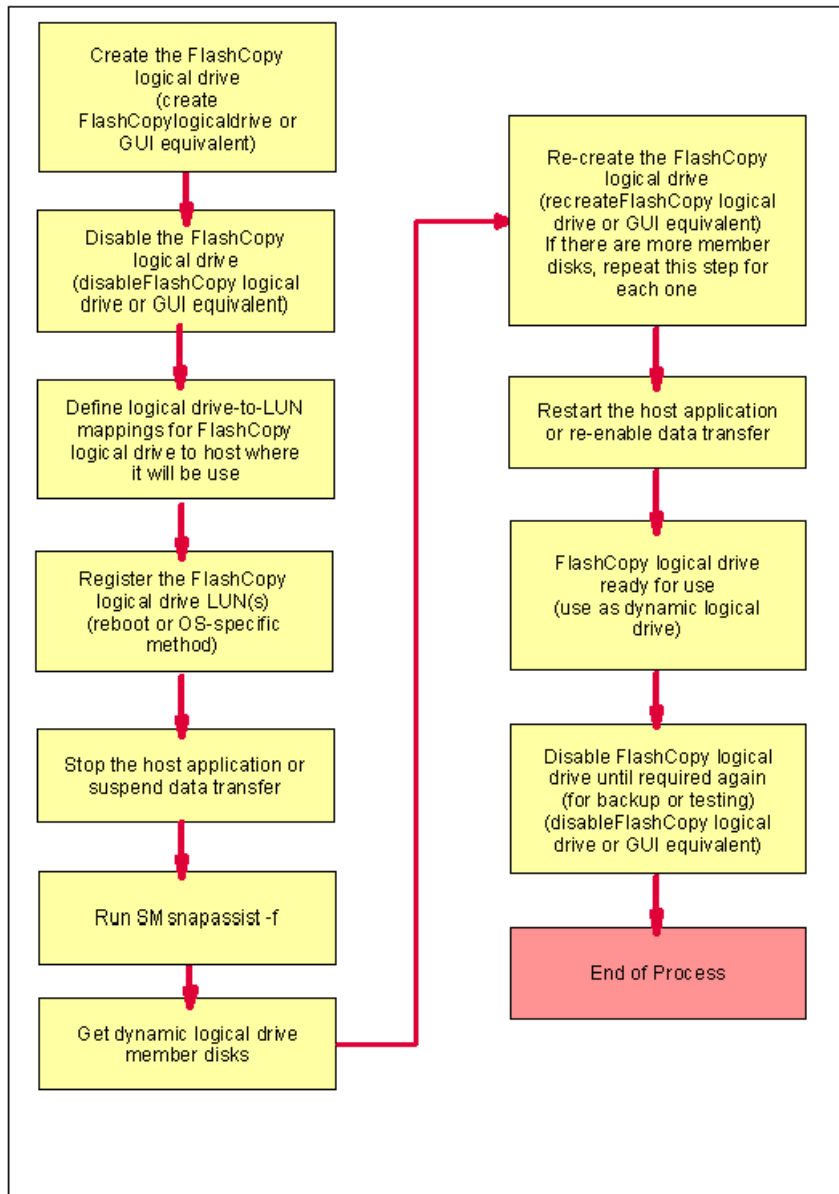

Figure A-3 Creating a FlashCopy logical drive: Windows 2000 dynamic disks
- ▶ Create a FlashCopy logical drive on Windows 2000 (using dynamic disks). See Figure A-3.